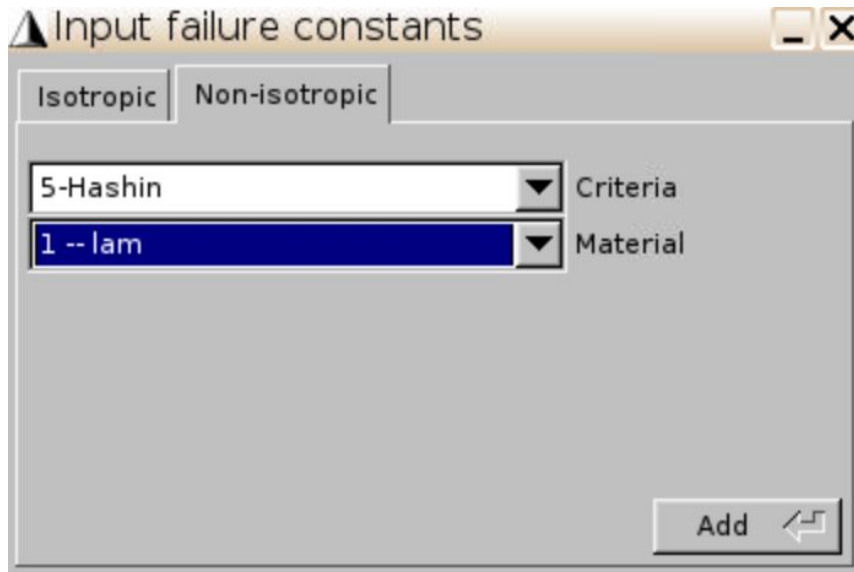
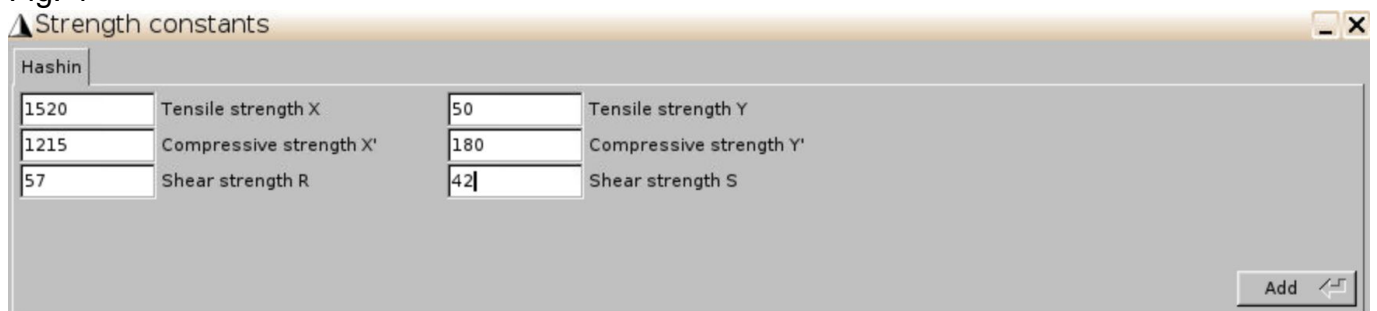

Fig. 4
Fig. 5
- Click SwiftComp->Static failure->Input failure constants. Assign failure criterion "Hashin" to the material (Fig. 4). Note that the lam is non-isotropic material. Input strength constants as shown in Fig. 5.